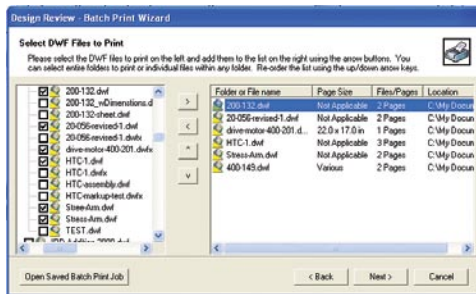

Figure 7
1. Select File>Batch Print Wizard. (Figure 7)